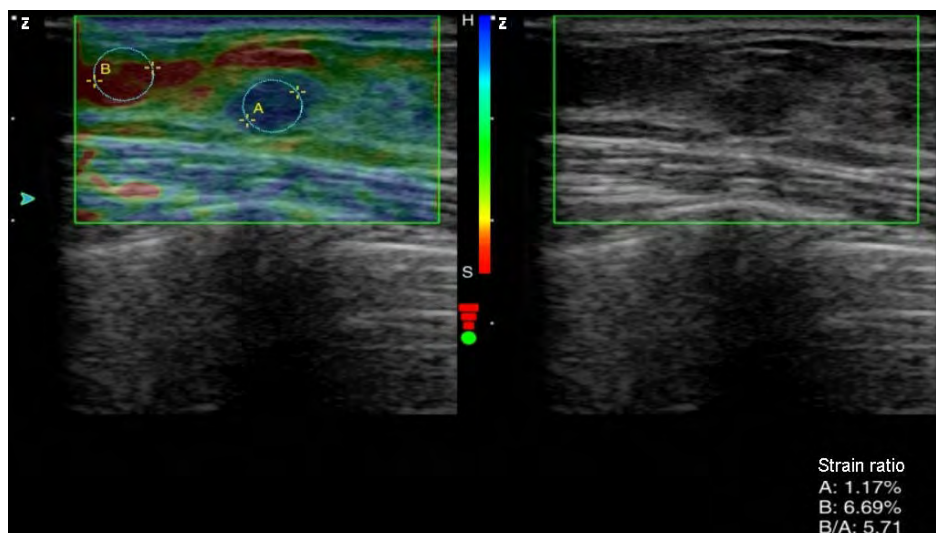

Figure 219: Measurement of the strain ratio
5. Move the cursor onto the normal tissue around the injured area and draw a circle of the same size circle using the method described above. If the circles are not the same size, they are displayed with dashed lines. If the circles are the same size, they are displayed with solid lines. Click on the **set** key to complete the measurement, as shown in Figure 219. The system then automatically calculates the ratio, and the measurement and calculation results are displayed in the bottom-right corner of the screen.